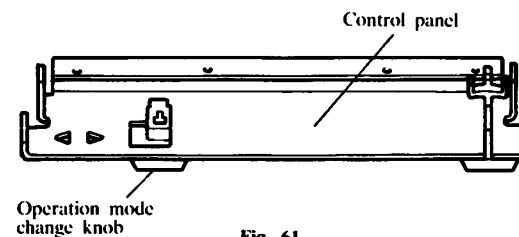

Fig. 61
- (1) Put the S/S switch key and the Operation mode selector knob on the control panel. (Refer to Fig. 61)